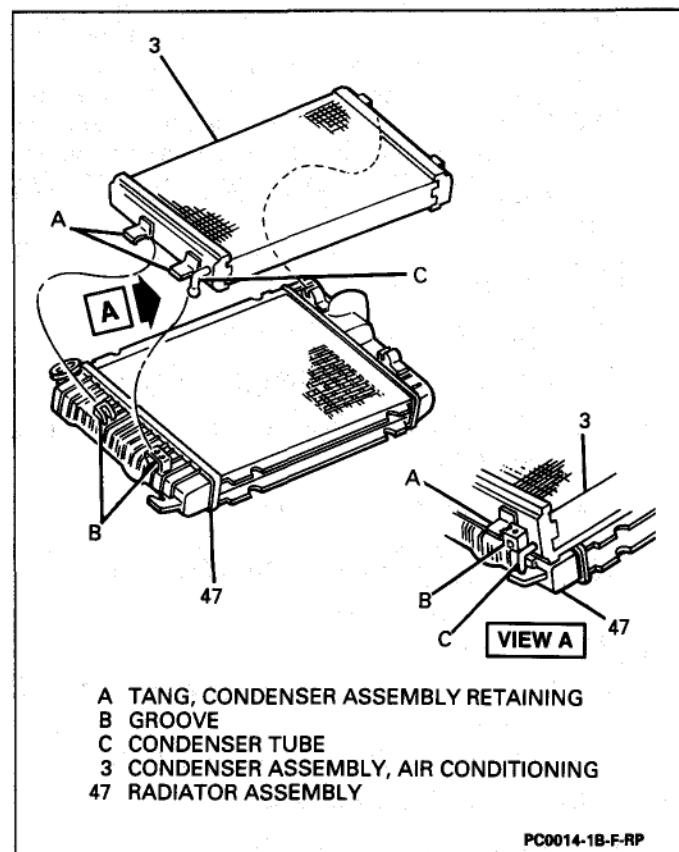

Figure 15 - Condenser Assembly
1. Condenser assembly (3) to radiator assembly (47).
- Retaining tangs must be fully seated in grooves (Figure 15).